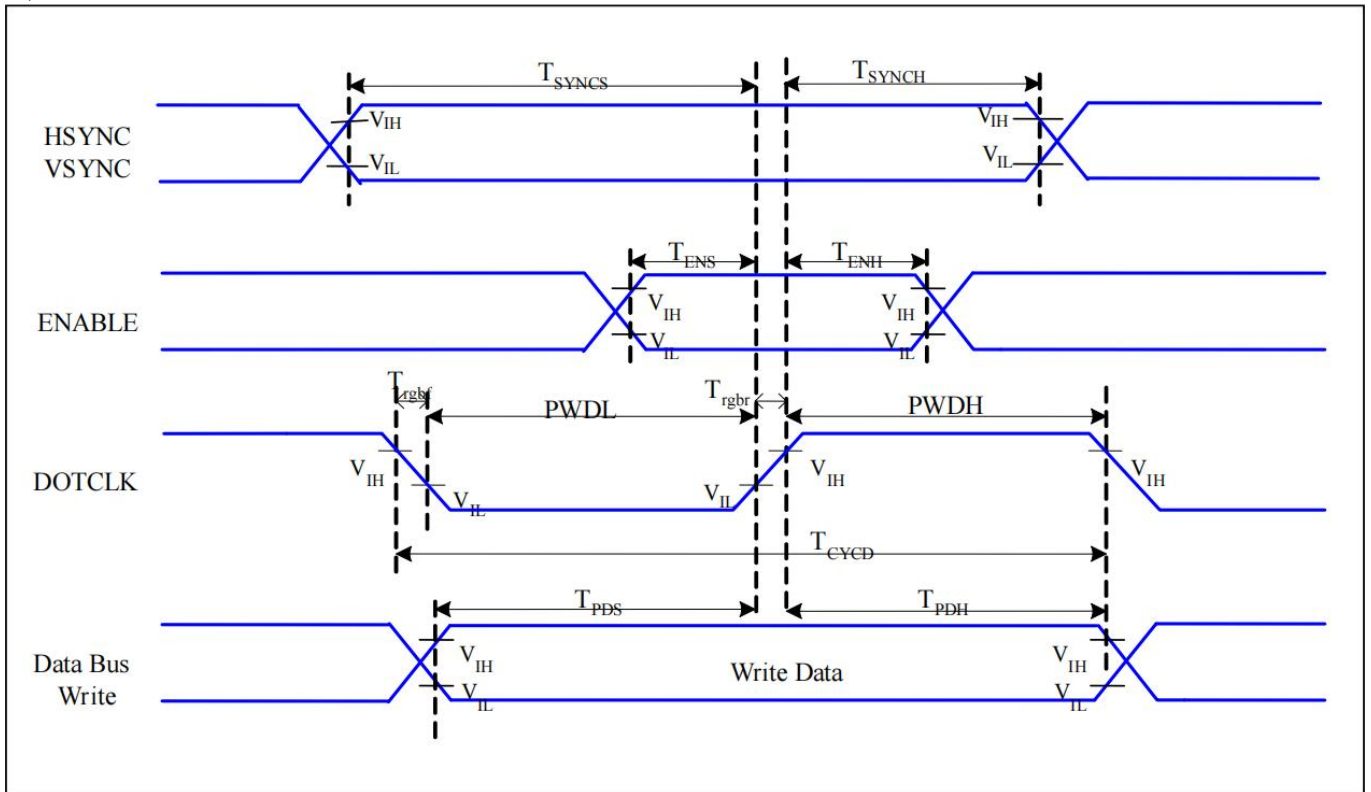

Figure 3.RGB Interface Timing Characteristics
6. The electro-optical response time measurements shall be made as FIGURE 3 shown in Appendix by switching the “data” input signal ON and OFF. The times needed for the luminance to change from 10% to 90% is  $T_r$ , and 90% to 10% is  $T_d$